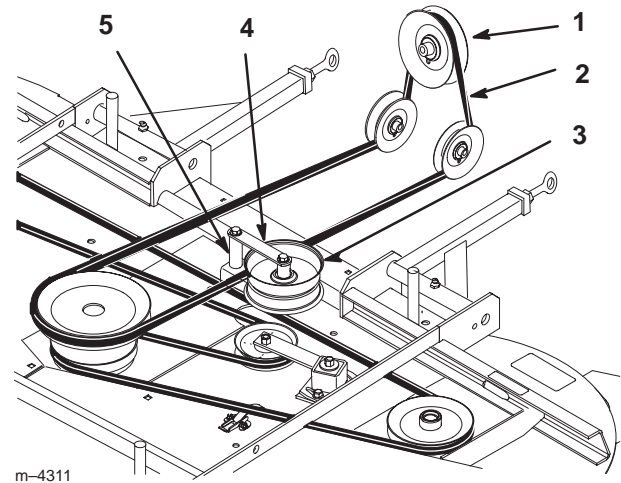

Figure 64
3. Remove PTO drive belt from clutch, around rear idler pulleys and off of mower top center pulley (Fig. 64).
4. Remove bolt, nut, washer and spacer from idler pulley bracket assembly. Remove belt from bracket assembly (Fig. 64).
6. Install belt into idler pulley bracket assembly. Install bolt, nut, washer and spacer into assembly (Fig. 64).